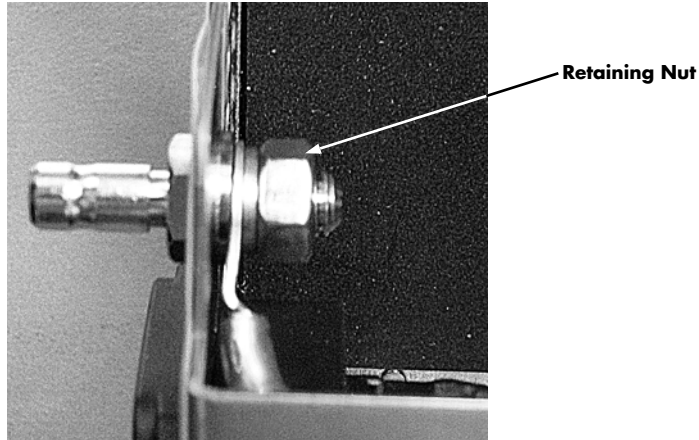

FIGURE 4-24 Remove the retaining nut.
1. Remove the retaining nut securing the grounding post (as shown in Figure 4-24).